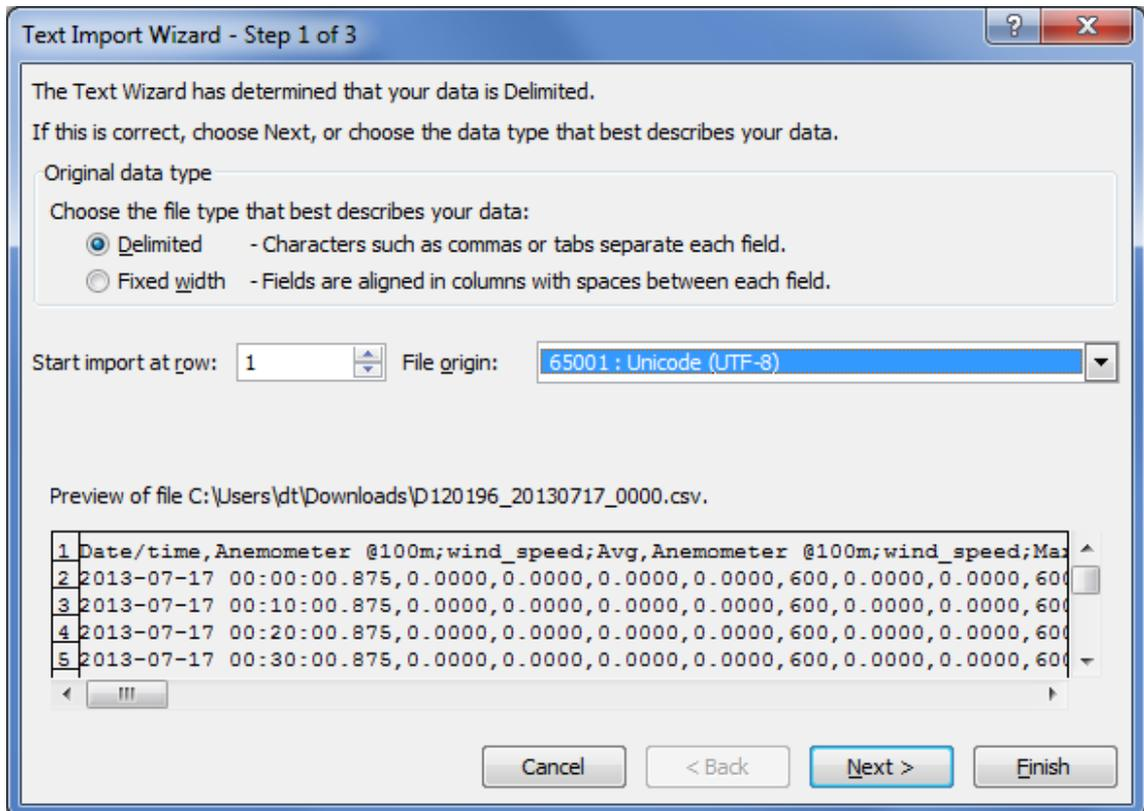

Figure 6.12: Microsoft Excel 2010™ CSV Import (3)
3. In the first step of the wizard choose *Delimited as Original data type* and select *Unicode (UTF-8)* for the file origin. See Figure 6.12.